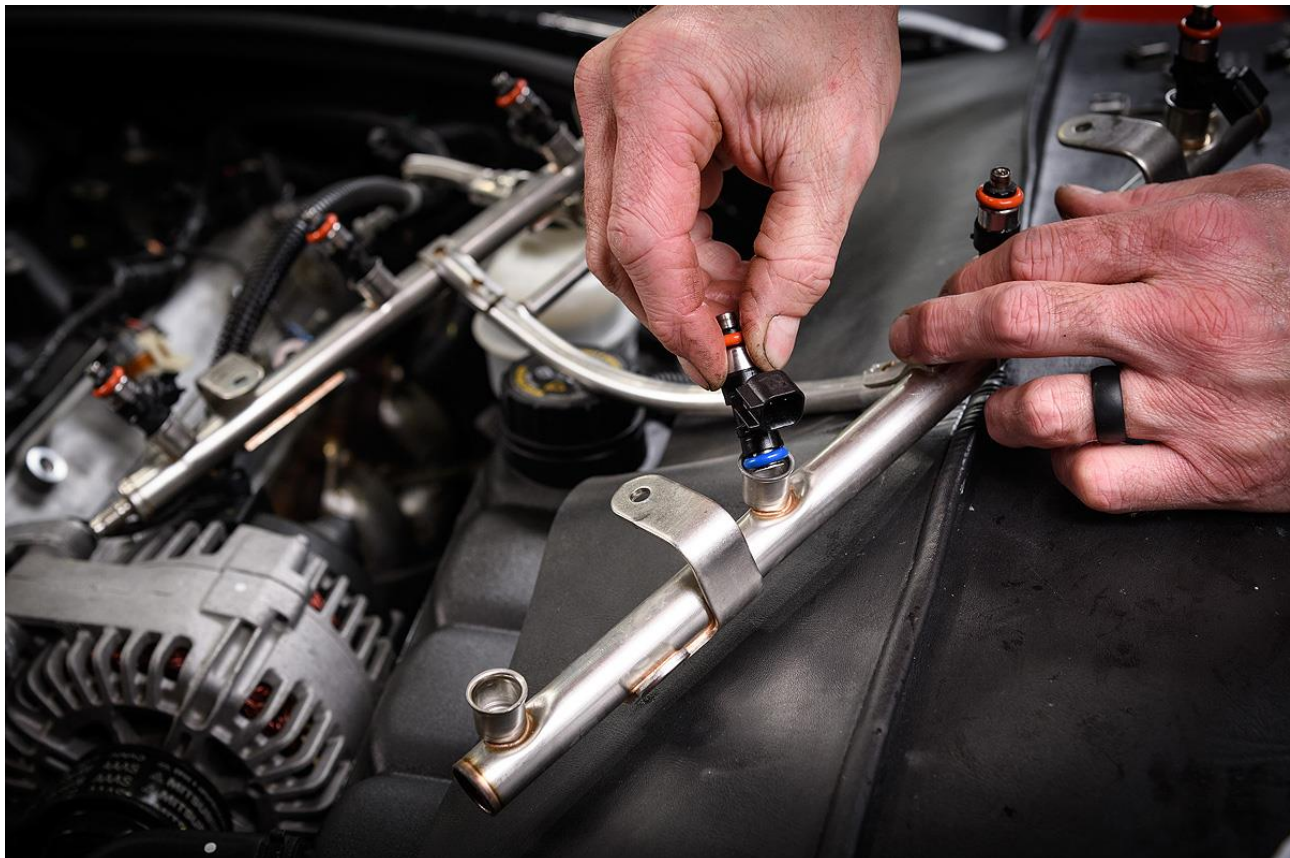

Figure 3
6. Remove the metal fuel injector retaining clips from each of the injectors. Using a small container to catch the fuel, remove each fuel injector one by one and drain the fuel into the container. Make sure that the O-ring seals come out of the manifold and the rail with the injectors (**Figure 3**).